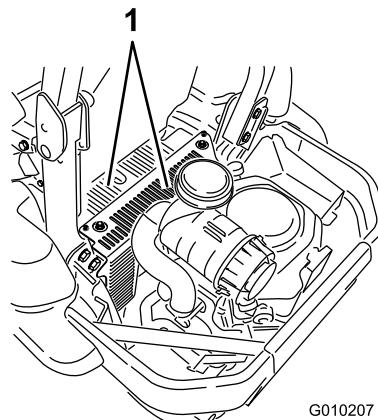

Figure 70
5. Clean the debris and grass from the hydraulic unit shrouds (Figure 70).